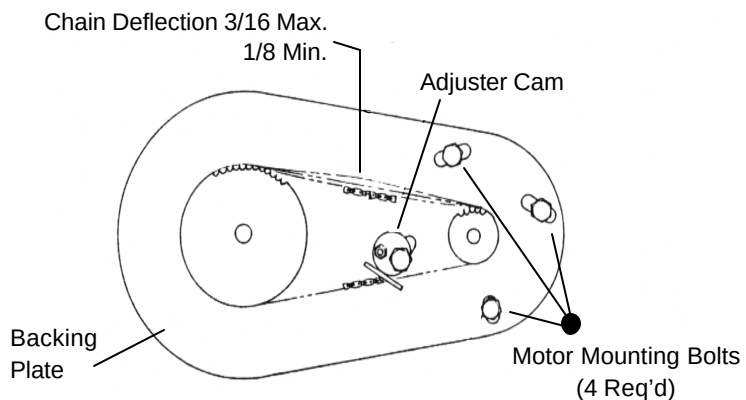

Figure 4 – Chain Tension
- 3) Rotate adjuster cam counterclockwise until chain is correctly tensioned (see Figure 4). The chain should deflect 1/8" to 3/16" when pressed down at the middle of the span (see Figure 4).